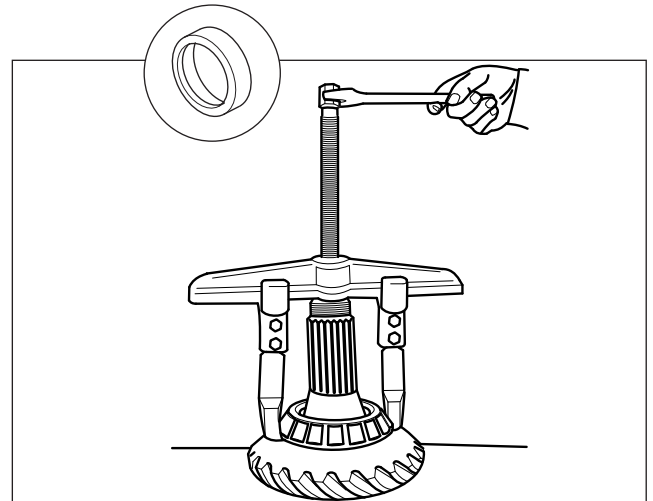

Fig. 2.29
29. Remove bearing cone from pinion using a standard bearing puller. (Fig.2.29)